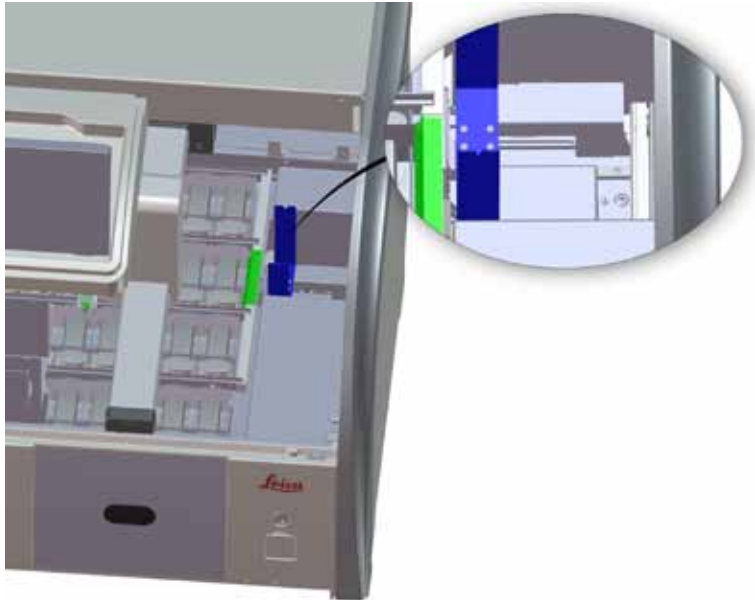

Fig. 95
- Regularly check the transfer station (→ "Fig. 95") for reagent residue and, if necessary, clean it using a commercially available, mild cleaning agent with a neutral pH value.